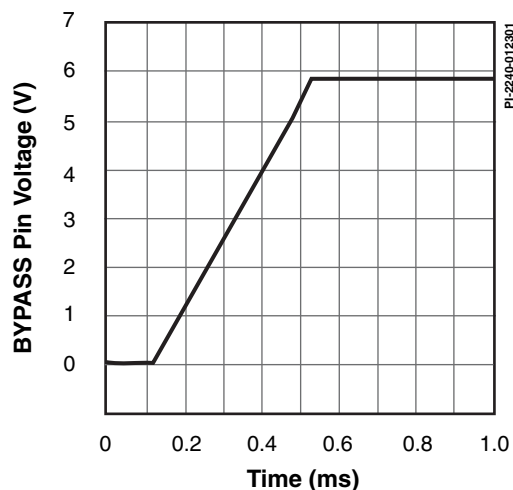

Figure 15. BYPASS Pin Startup Waveform.
- C. See Typical Performance Characteristics section Figure 15 for BYPASS pin startup charging waveform.